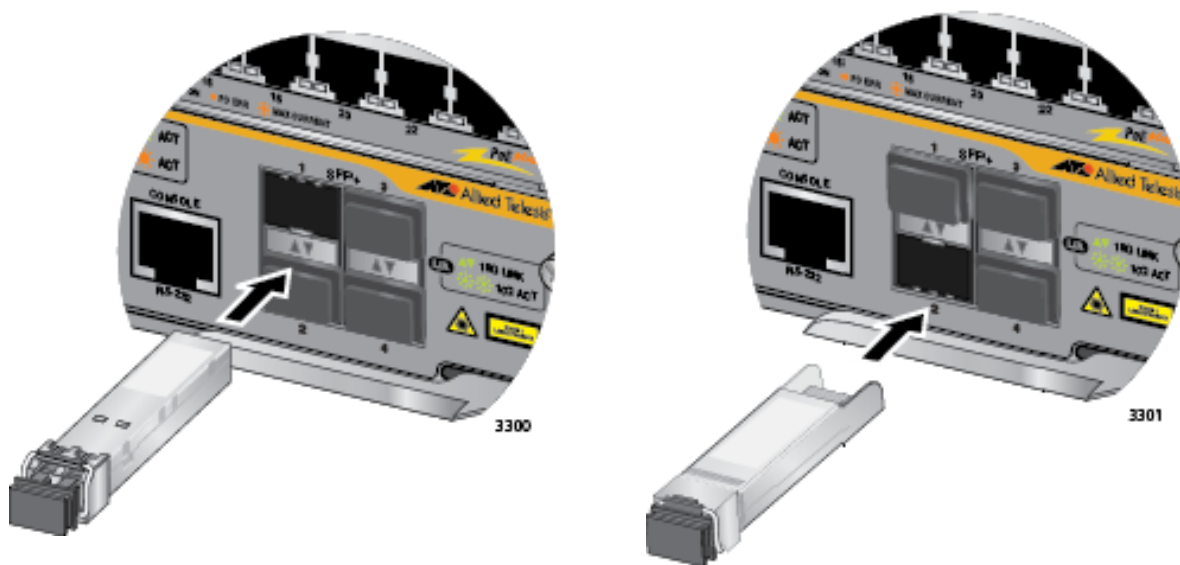

Figure 111. Installing an SFP+ Transceiver in the AT-SBx81CFC960 Controller Fabric Card
3. Slide the transceiver into the slot until it clicks into place, as shown in Figure 111 on page 188.